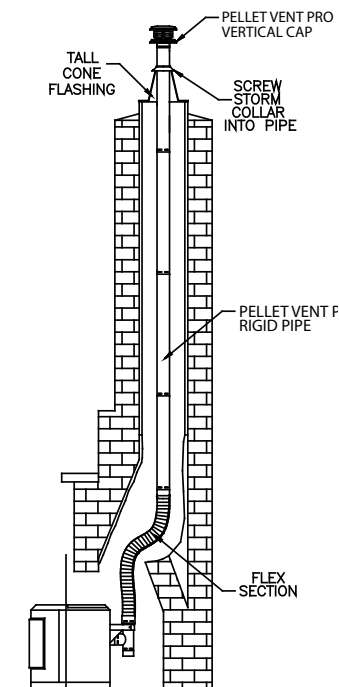
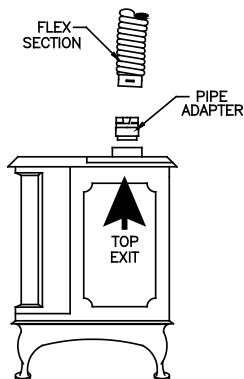

Figure 20
Figure 21
8. In making the connection at the appliance, configurations other than the one shown in **(Figure 20)** may be made. It may be necessary to contact the manufacturer of the unit to determine exactly what may or may not be done to make the correct connection. Some typical arrangements are shown in **(Figures 21 and 22)**. An Appliance Adapter or Increaser Adapter may be needed, depending on the exit size of the stove or insert collar.